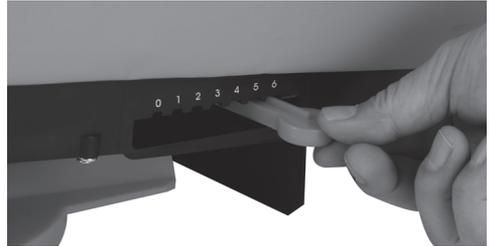

FIGURE 3
- Continuously turn the handle in a clockwise direction and walk at a consistent pace to help spread the seed evenly. To adjust the slide gate, press down on the control lever to reach the desired setting. (See Figure 3)